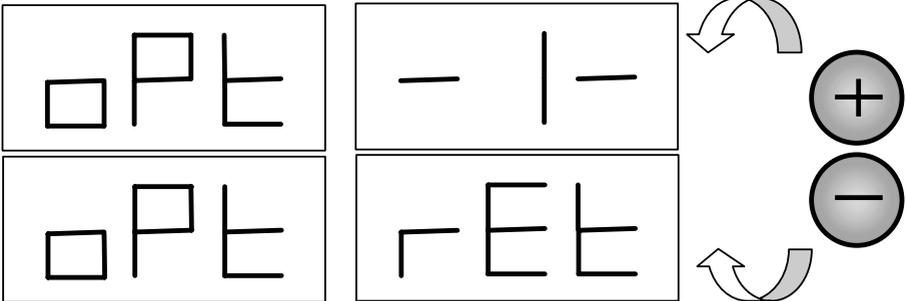

Fig. F5.1 Access to the Optimisation programme
1. Press [F+P4]  +  . The display will show the options shown in figure F5.1. Press [P4]  or [P5]  and choose the option `oPt-1-` to continue, or the option `oPt rEt` to return to the operating programme. Press [F+P4]  +  to confirm the chosen option;